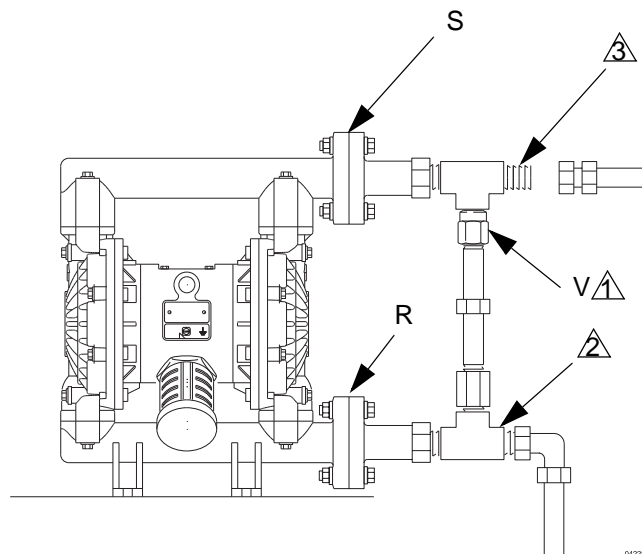

Fig. 5
1. **Use grounded fluid hoses (L).** The pump fluid outlet (S) is 1" npt(f). See Fig. 5. Refer to **Flange Connections** on page 9.
2. Install a fluid drain valve (J) near the fluid outlet. See the **WARNING** above.
3. Install a shutoff valve (K) in the fluid outlet line.
Some systems may require installation of a pressure relief valve at the pump outlet to prevent overpressurization and rupture of the pump or hose. See Fig. 5.